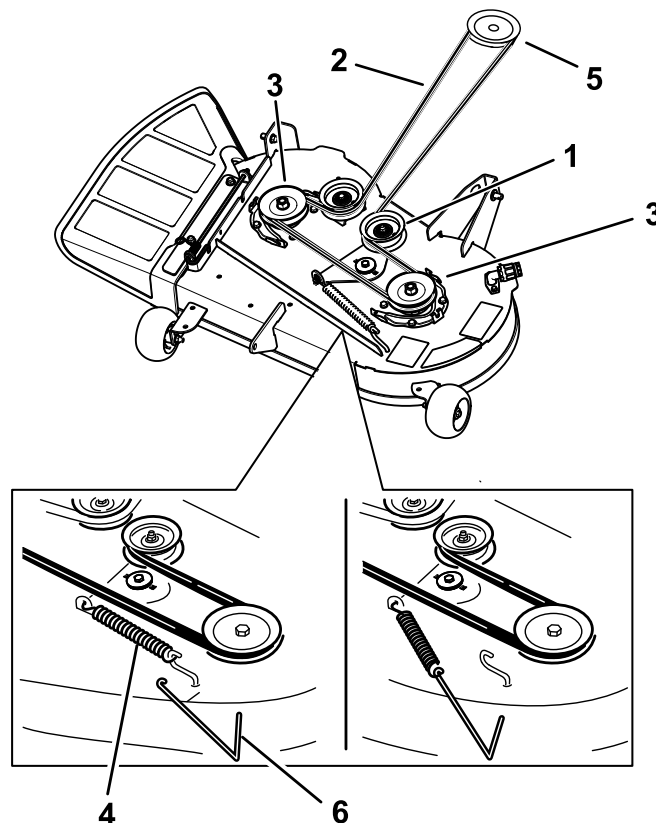

Figure 59
6. Route the new belt around the engine pulley and mower pulleys (Figure 59).
7. Using a spring-removal tool (Toro Part No. 92-5771), install the idler spring over the deck hook and place tension on the idler pulley and the mower belt (Figure 59).
5. Using a spring-removal tool (Toro Part No. 92-5771), remove the idler spring from the deck hook to remove tension on the idler pulley, and roll the belt off the pulleys (Figure 59).